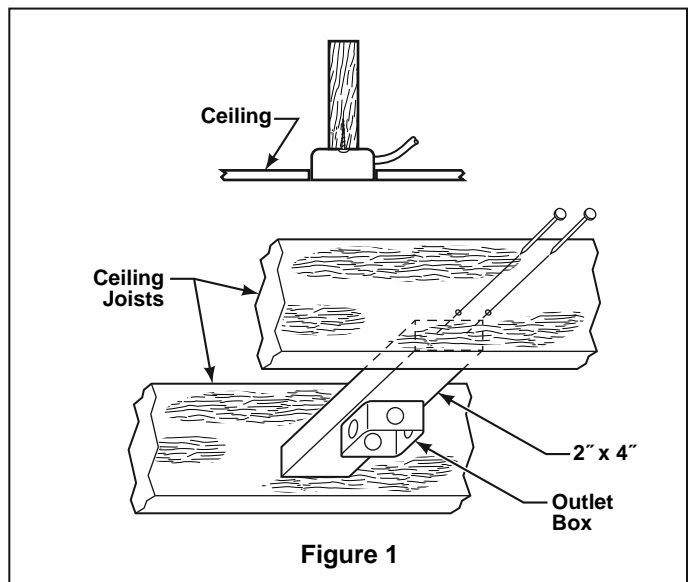

Figure 1
Your new ceiling fan will require a grounded electrical supply line of 120 volts AC, 60 Hz, 15 amp circuit. The outlet box must be securely anchored and capable of withstanding a load of at least 50 lbs. **Figure 1** depicts different structural configurations that may be used for mounting the outlet box.
1. Remove the Hanger Ball by loosening the setscrew in the Hanger Ball until the ball falls freely down the Downrod. (Figure 1) Remove the Pin from the Downrod, then remove the Hanger Ball. Retain the Pin and Hanger Ball for reinstallation in Step 5.